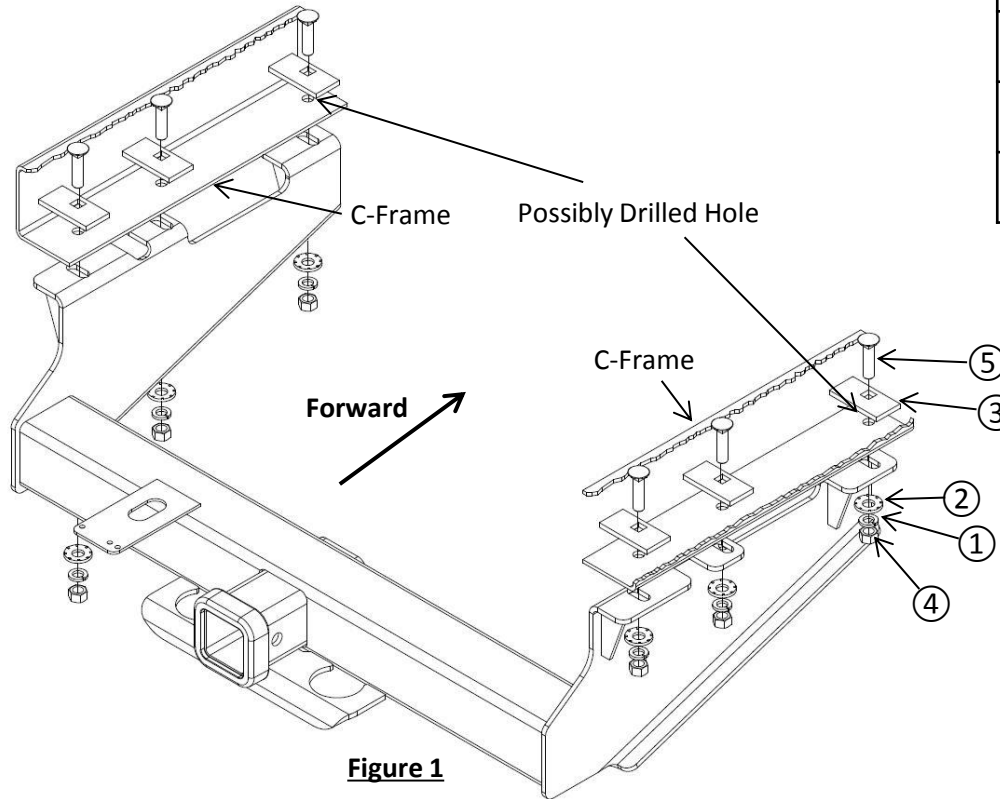

Figure 1
- 1. Install Rearward Most Fasteners** – Insert (1) 1/2" carriage bolt and (1) spacer into the rearward most hole on each side through end of frame. On some models there are two holes at the rear most of the frame. Use the smaller hole forward of the large hole.
- 2. Raise Hitch into Position** – Hold the hitch up under the frame with the bolts going through the holes in the brackets and install (1) 1/2" conical washer, (1) 1/2" lock washer, and (1) 1/2" nut on each side.
- 3. Install Remaining Fasteners** – Insert (1) 1/2" carriage bolts and (1) spacers through the remaining holes then install (1) 1/2" conical washer, (1) 1/2" lock washers, and (1) 1/2" nuts on the bolts as shown in Figure 1. Some short bed models might need to have the forward most hole drilled. Use the holes in the bracket as a guide to drill a 1/2" hole in the frame.